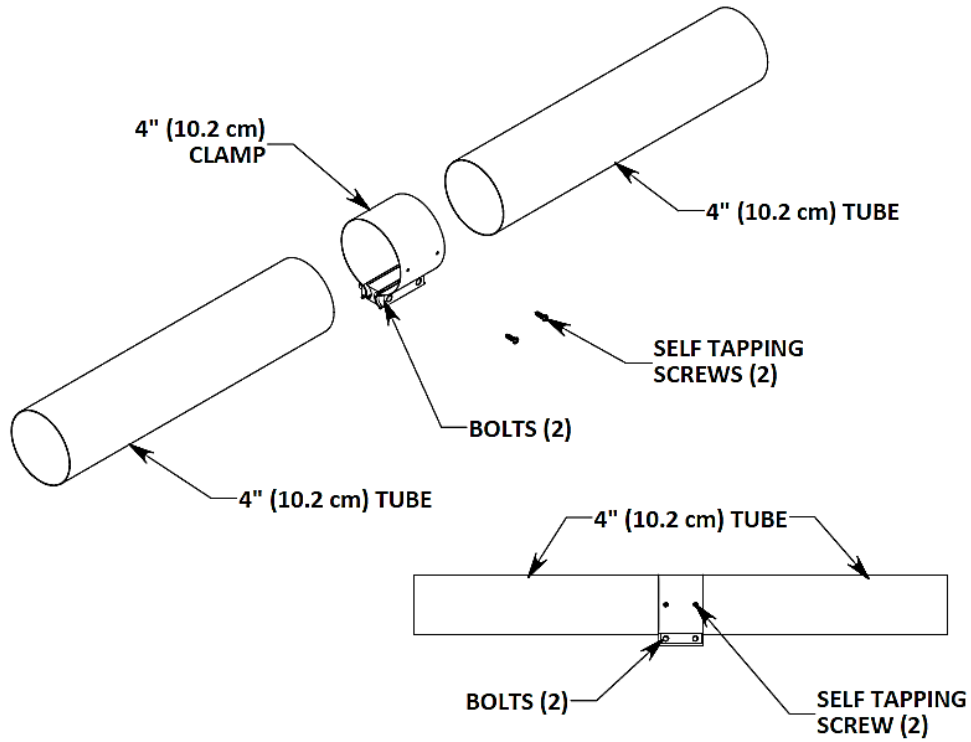

Figure 35. CLAMP COUPLER INSTALLATION
**IMPORTANT:** Make sure to secure clamp to tube via self-tapping screws. (See Figure 35 on page 37)